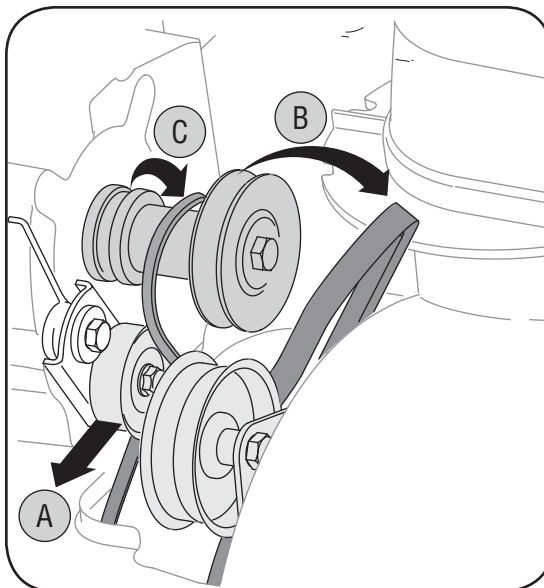

Figure 26
1. a. Grasp the idler pulley and pivot it toward the right. See Figure 26. Insert a screw driver through aligning holes in both the idler bracket and the engine. This will release tension on drive belt.
c. Lift the drive belt off engine pulley. See Figure 26.